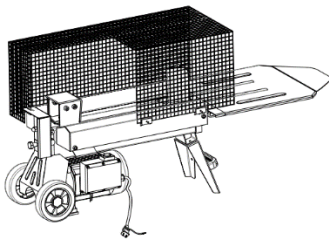

Fig. 6
1.5 Connect the top protective grid to the rear protective grid, the left protective grid, and the right protective grid using the metal buckles, as shown in Fig. 6.